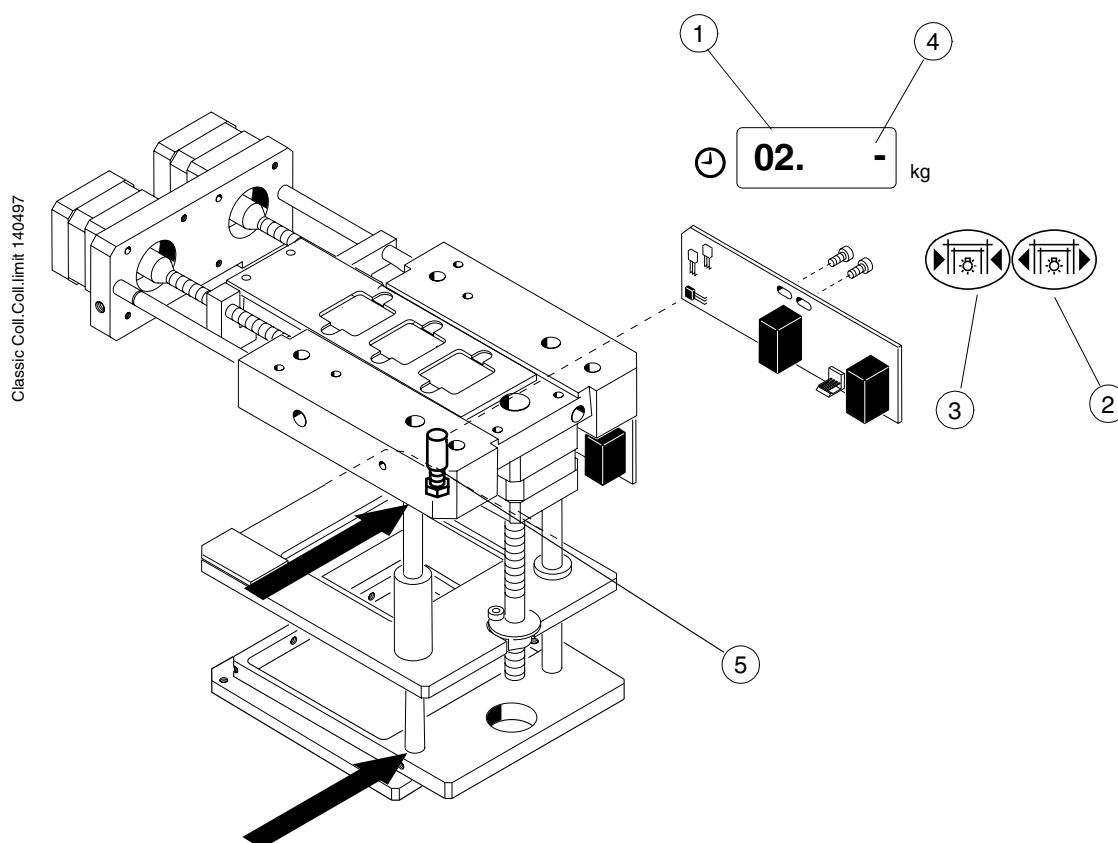

Figure F.21
- Enter the service mode and select the display of internal signals mode 02 (Fig. F.21, 1).
- Pressing the filed/light keys (Fig. F.21, 2,3) drive the moving collimator to the hall-sensor and check that the indicator LED on the COLLIMATOR PCB lights as well as the right middle signal (Fig. F.21, 4) on the display.
The collimator worm-screw nut may not hit the collimator lower frame or stick to the beginning of the worm-screw (arrows). To prevent this adjust the collimator magnet holder (Fig. F.21, 5) in up/down direction. The final adjustment of the collimator positions is performed according to instructions described in chapter F, section 4.3.